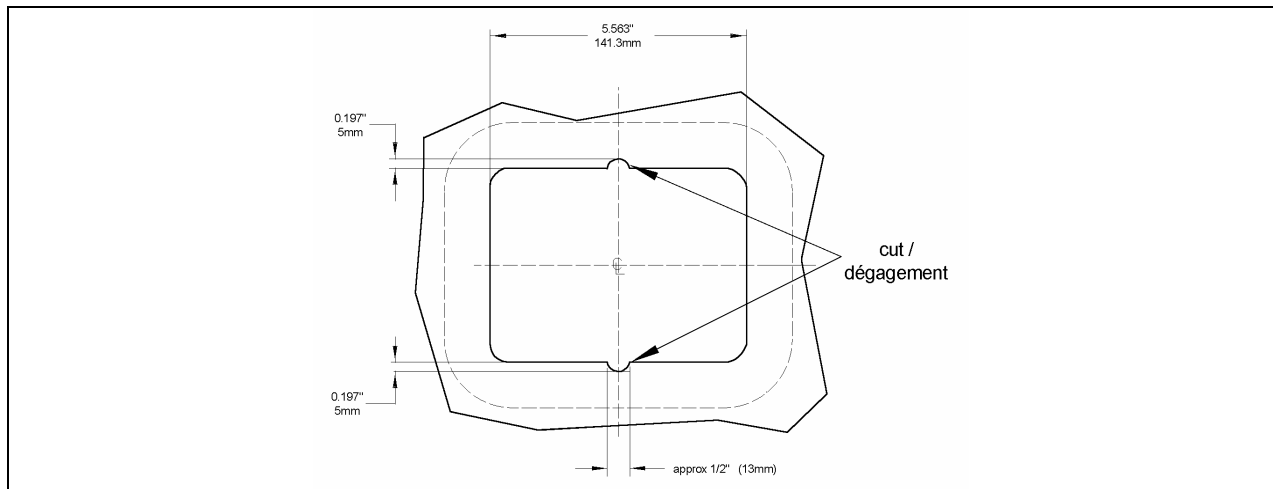

FIGURE 2: CUTTING THE DOOR PANEL, REF. STEP 5
- To permit installation of the new handle, cut the door panel as shown in figure 2.